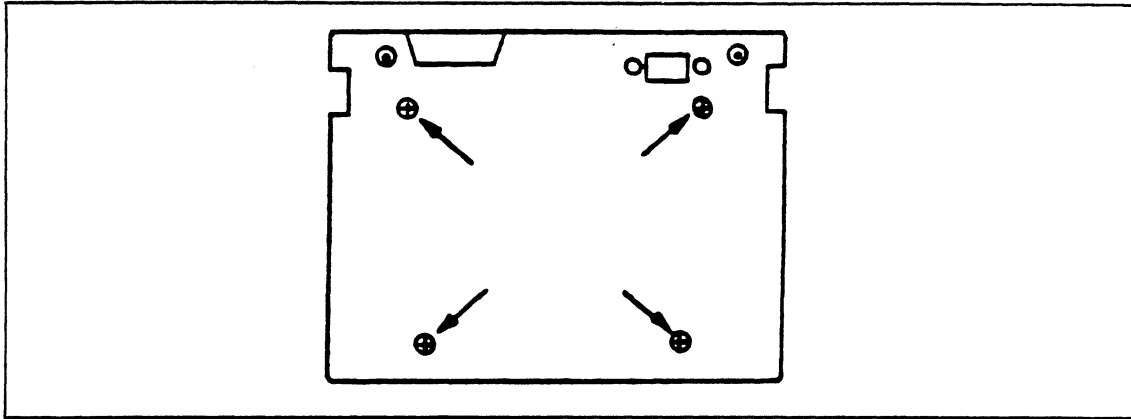

Figure 214-14. Cartridge Tape Screw Locations
1. Open the cartridge by removing the four baseplate Phillips head screws (see Figure 214-14), and set the cartridge upright on the work surface with the cover on.